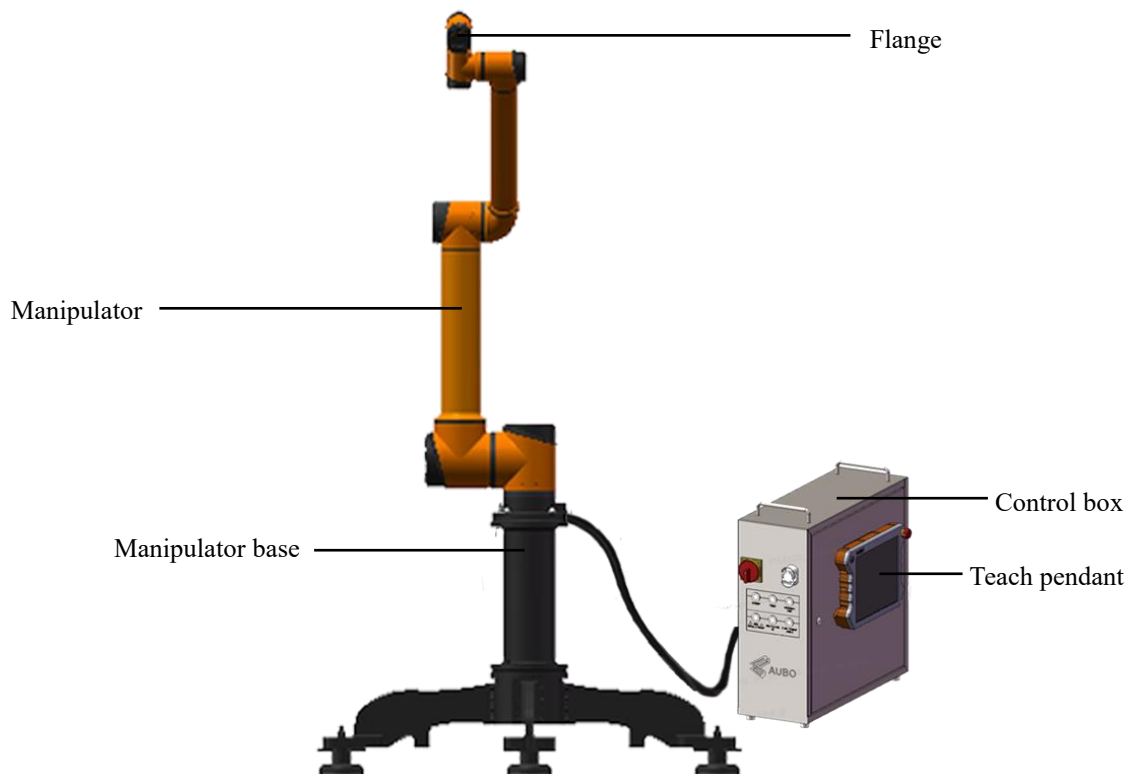
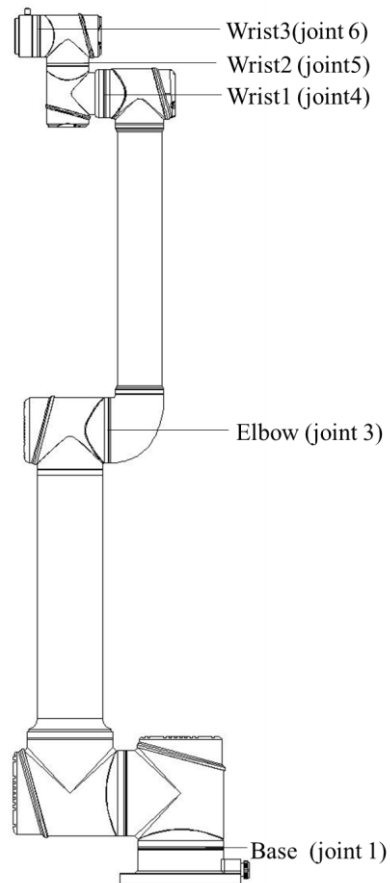

Figure 5-1 AUBO-i10 robot
Figure 5-2 -1 Manipulator Joints
As shown in figure 5.1, The AUBO-i10 robot system consist of a manipulator, a control box(which can choose a variety of models), a manipulator base and a teach pendant. The manipulator imitates human which has six joints and each joint represents a degree of freedom. As shown in figure5.2, manipulator's joint includes a robot base (A), a shoulder (B), an elbow (C), a wrist1(D) ,a wrist2(E) and a wrist3(F). The manipulator base is used for the robot body and the base connection. End-effector is used to connect manipulator and tool. Aluminium pipe is used to connect shoulder and elbow or elbow and wrist. Through the AUBOPE user interface or hand-guiding, users can control the rotation of every joint and move end-effector to any poses.